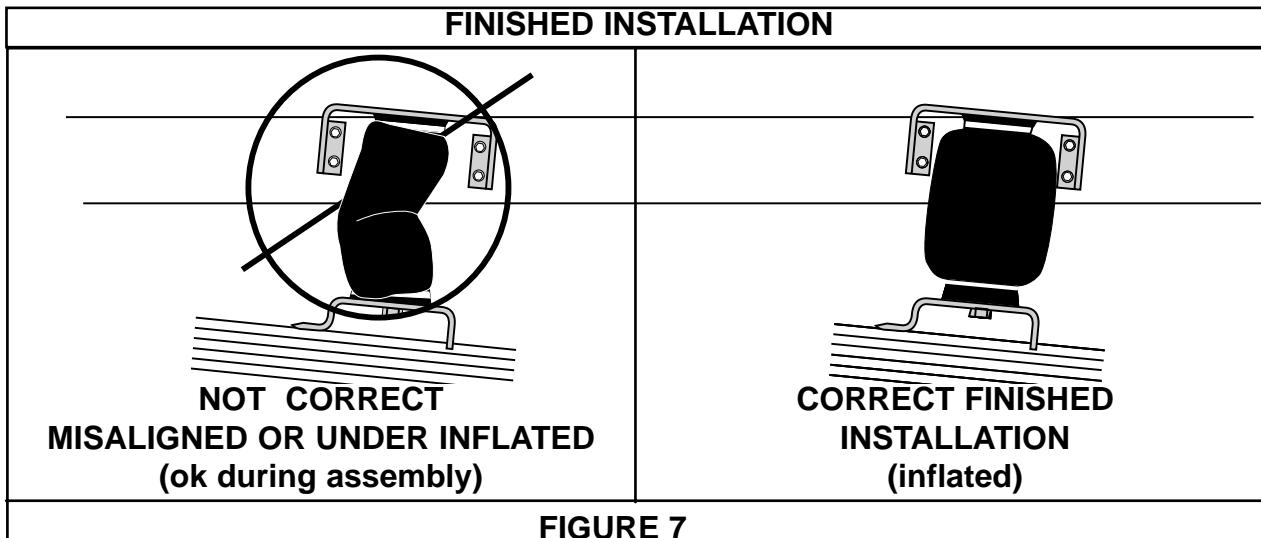

FIGURE 7
1. IMPORTANT: For your safety and to prevent possible damage to your vehicle, do not exceed maximum load recommended by the vehicle manufacturer. Although your air springs are rated at maximum inflation pressure of 100 p.s.i., this pressure may represent too great of load on some vehicles. Check your vehicle owner's manual and do not exceed maximum loads listed for your vehicle. When inflating your Air Lift sleeves, add pressure in small quantities, checking pressure during inflation. The sleeves require much less air volume than a tire and therefore inflate much faster. 2. Should it become necessary to raise the vehicle by the frame, make sure the system is at minimum pressure (10psi) to reduce the tension on suspension/brake components. Check to see that the sleeve rolls back down over the bottom piston after the vehicle is lowered (Figure 7). If sleeve fails to roll back down over the piston, add air pressure until sleeve "pops" back over piston (do not exceed 100 p.s.i.).